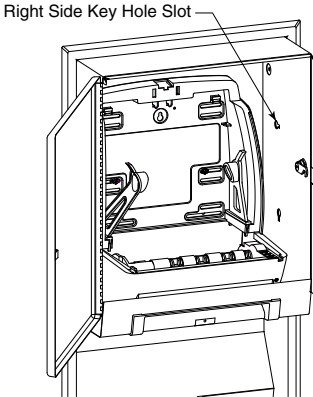

Figure 3
3. Insert one set of mounting hardware, the Carriage Bolt with the Washer Lock Nut, into the round portion of the upper right or left side keyhole slot from the inside of the housing with the head of the Carriage Bolt going in first. Position the square shoulder of the Carriage Bolt so that it is parallel with the straight sides of the keyhole slot and slide the entire assembly as far over as it will go. The square shoulder of the Carriage Bolt should be in contact with the end of the rectangular portion of the key slot to ensure proper seating of the mounting hardware. (See Figures 3 & 4)